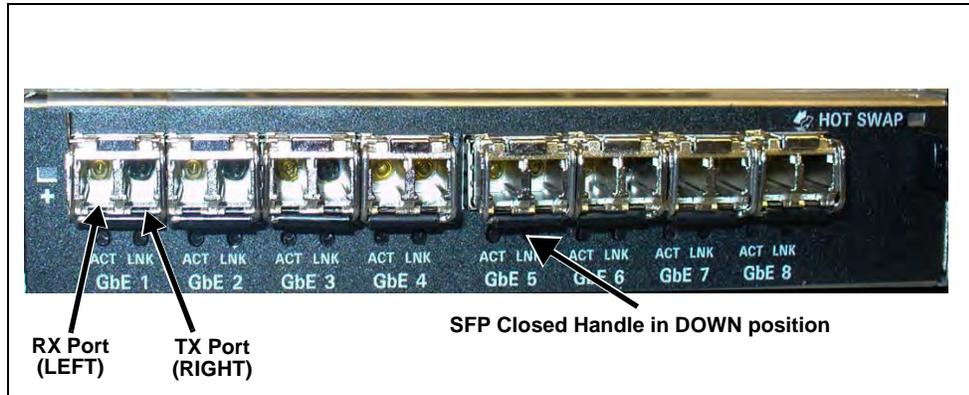

Figure A.4 - IIC100 SFPs
Insert 1 Gb SFPs into the IIC100 with the closed handle in DOWN position (**Figure A.4**). For the 1G SFPs, the left port is Receive (RX) and the right port is Transmit (TX).